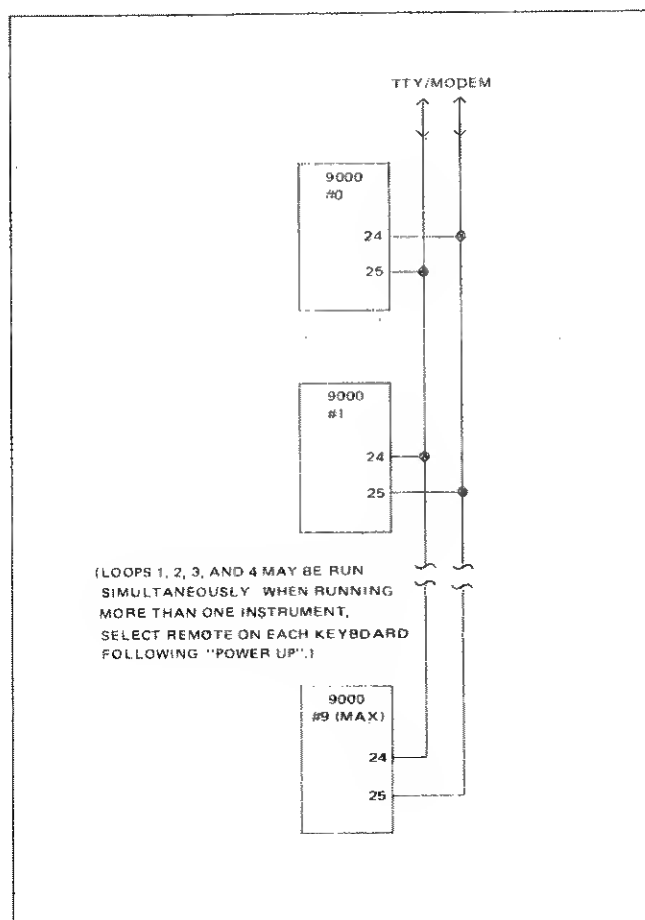

Figure 3.4 - Bus Hookup
3.12.1 The option 57 accommodates up to 10 instruments on a single bus (figure 3.4) with each unit having a separate address. The address allows a specific instrument to be "called up" by the TTY or a tape without interfering with any other unit on the bus. The address is selected by the positioning of four switches on a quad switch unit, located on the serial ASCII board.